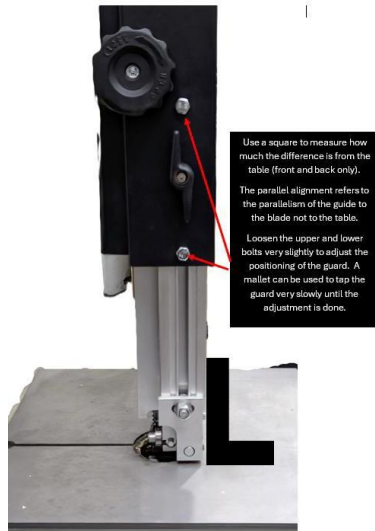

Figure 25: guidepost parallelism.
- 4- Loosen the two bolts very slightly shown in figure 25. It is important to make sure the guidepost isn't moving freely.